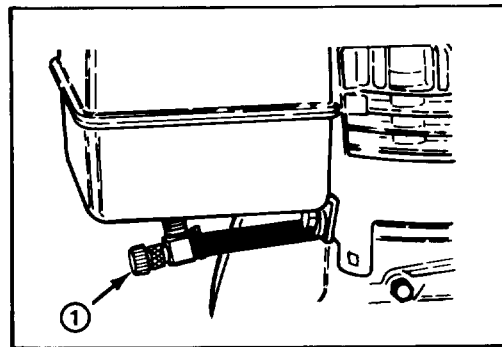

Figure 11
Fuel Shut-Off Valve (Fig. 11) — Valve is located under fuel tank. Close valve to stop fuel flow from fuel tank and open valve to allow fuel to flow to the carburetor. Close valve when snowthrower is not used.
2. Open fuel shut-off valve below fuel tank (Fig. 11).